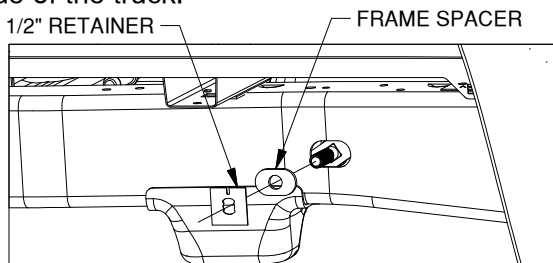

Figure C2: View looking into driver side wheel well.
2. **Install frame spacers.** Install a frame spacer into each hole over the carriage bolt. To prevent the carriage bolts from falling into the frame. Thread a 1/2" retainer onto each bolt until it is snug against the frame, see Figure C2. Repeat steps 1 & 2 on the other side of the truck.